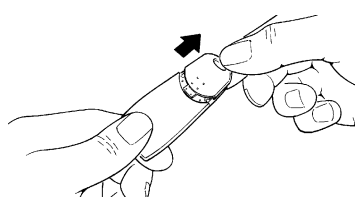

Fig. 9
1. Open the base by pulling as shown in figure 9.